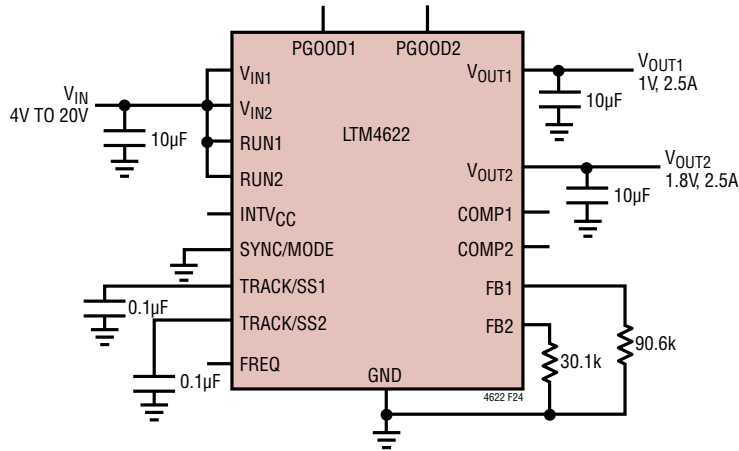

Figure 24. 4V_{IN} to 20V_{IN}, 1V and 1.8V Output at 2.5A Design
**Table 7. Output Voltage Response for Each Regulator Channel vs Component Matrix (Refer to Figure 24)